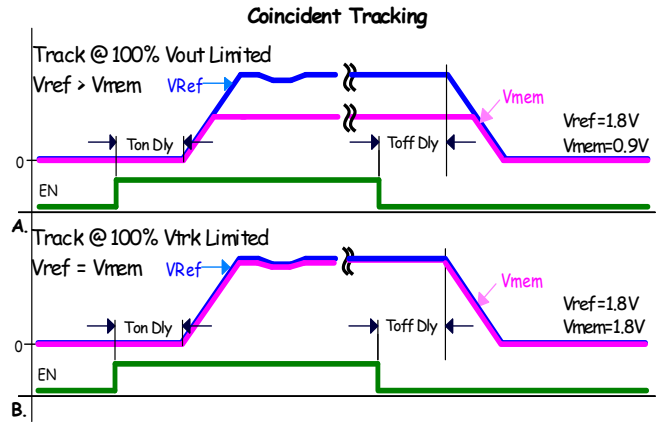

FIGURE 22. COINCIDENT TRACKING
voltage Figure 22 (A).
- Track at 100% VTRK limited. Member rail tracks the reference at the instantaneous voltage value applied to the VTRK pin Figure 22 (B).
The configuration settings for Figures 22 and 23 are shown in Tables 11 through 14. In each case the reference and member rise times are set to the same value.
TABLE 11. TRACKING CONFIGURATION Figure 22 \(A\)
TABLE 12. TRACKING CONFIGURATION Figure 22 \(B\)